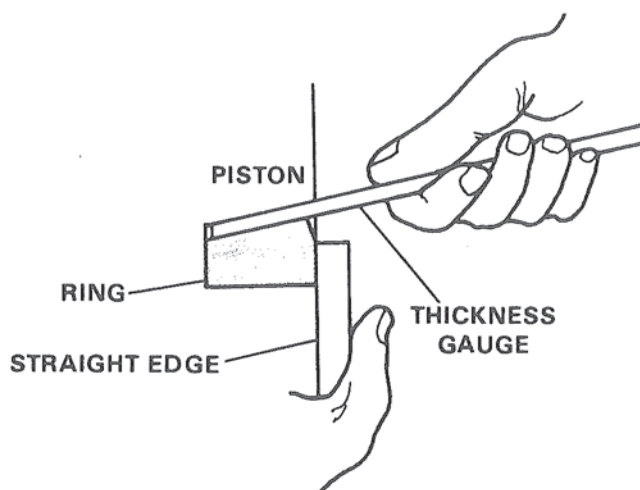

Figure 30. Checking Top Ring Side Clearance.
5. Place top ring in top groove of piston. Hold ring in groove with a straight edge. Figure 30.